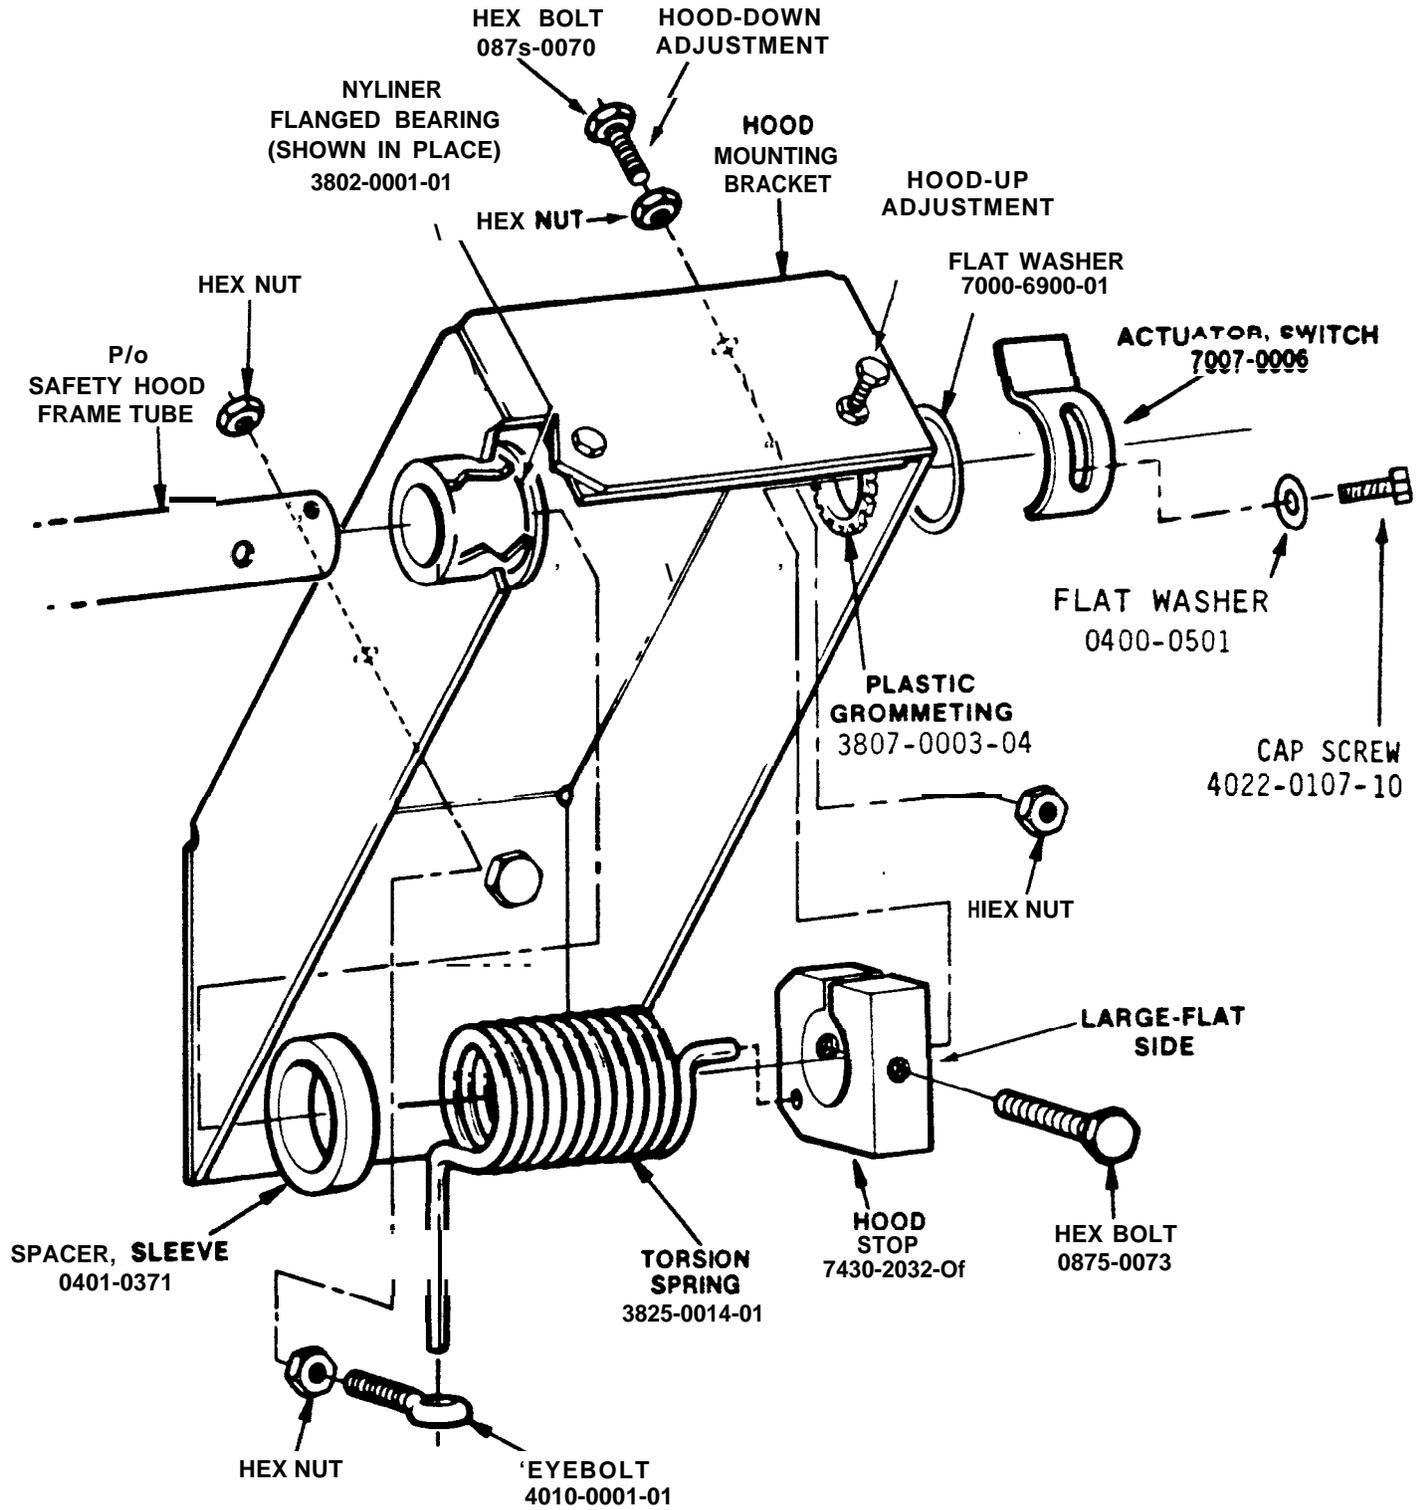

FIGURE 2
II. HOOD INSTALLATION - Refer to Figure 2
- 3* Install the Hood-Up Stop which consists of two 3/8" Hex Nuts and a 3/8" x 16 - 1 1/4" Machine Screw. Refer to Figure 2.
6. Slide the Torsion Spring over the end of the Tube. The "**radial end**" of the Spring must go on first (refer to Figure 2).
7. Refer to Figure 2. Slide the Hood Stop onto the Safety Hood's Tube until it engages the hole in the Hood Stop. Correct orientation calls for the slot in the Hood Stop to be pointed upward when looking directly at the large-flat edge of the Hood Stop. Refer to Figure 2.